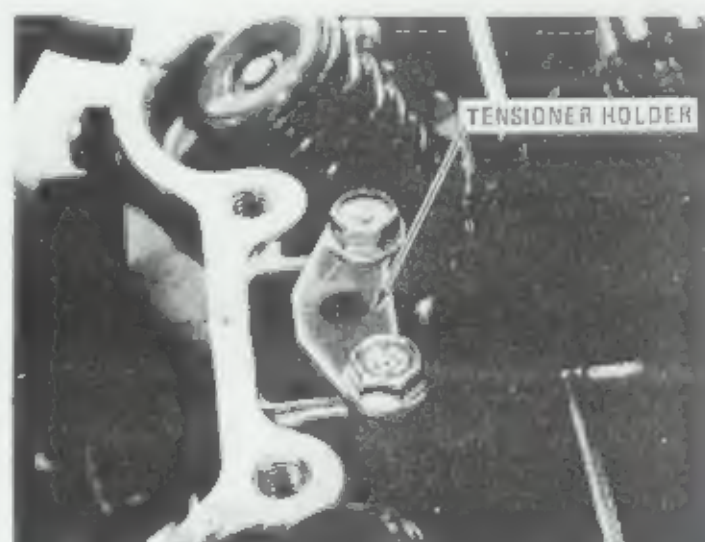

FIG. 18
11. Install the cam chain tensioner damper and holder (Fig. 18). Be certain the tensioner slipper is properly seated in the damper.